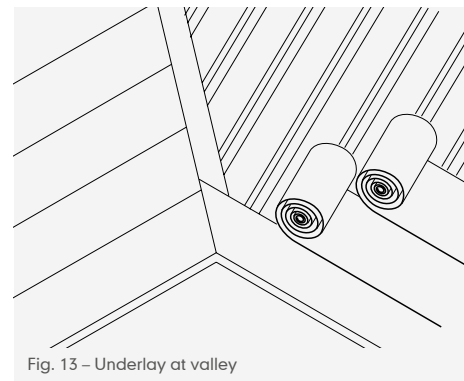

Fig. 13 – Underlay at valley
- 3 Where underlay is cut to centre line of valley, lay a continuous strip of underlay not less than 600mm wide for the full length of valley beneath main courses of underlay (Fig. 13).